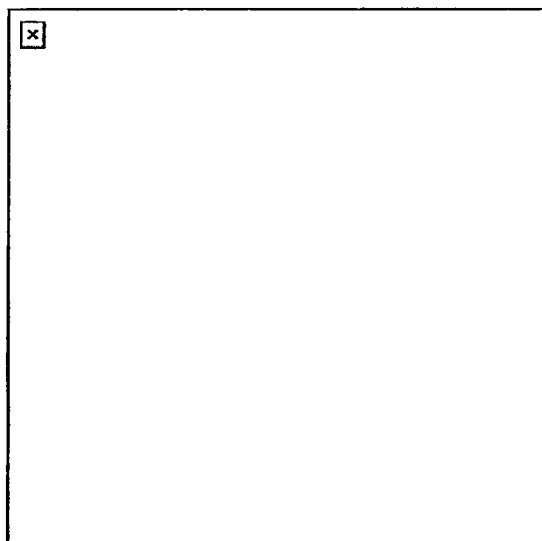

Figure 10. High machine gun position.
- c. Although grazing fire is desirable when employing the machine gun, it will be impractical or impossible where destroyed vehicles, rubble, and other obstructions restrict the field of grazing fire. In such cases, emplacing the machine gun at a higher location, firing from loopholes on the second or third floor, or firing through a loophole in the roof is advised (Figure 10).